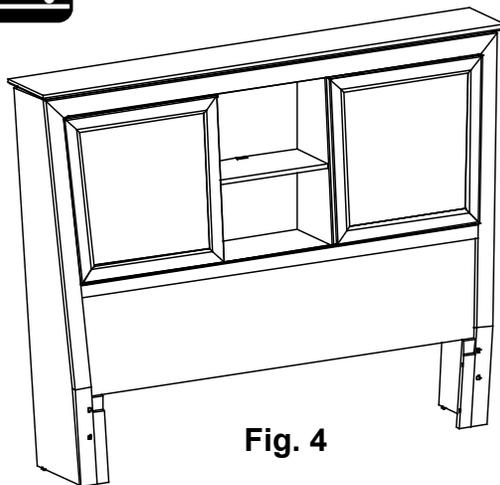

Fig. 4
3. Position the Headboard (Aa) against the frame and attach using six #14 x 3/4" Pan Head Screws (YG) and six 18mm Washers (YH).
4. Place your bed in its final position. To level the headboard, reach behind the bookcase front legs and, using a slotted screwdriver, find the Large Adjustable Glide (ZR). Using a slotted screwdriver, rotate the Large Adjustable Glides (ZR) clockwise until they bear weight. See Figures 4, 4a and 4b.